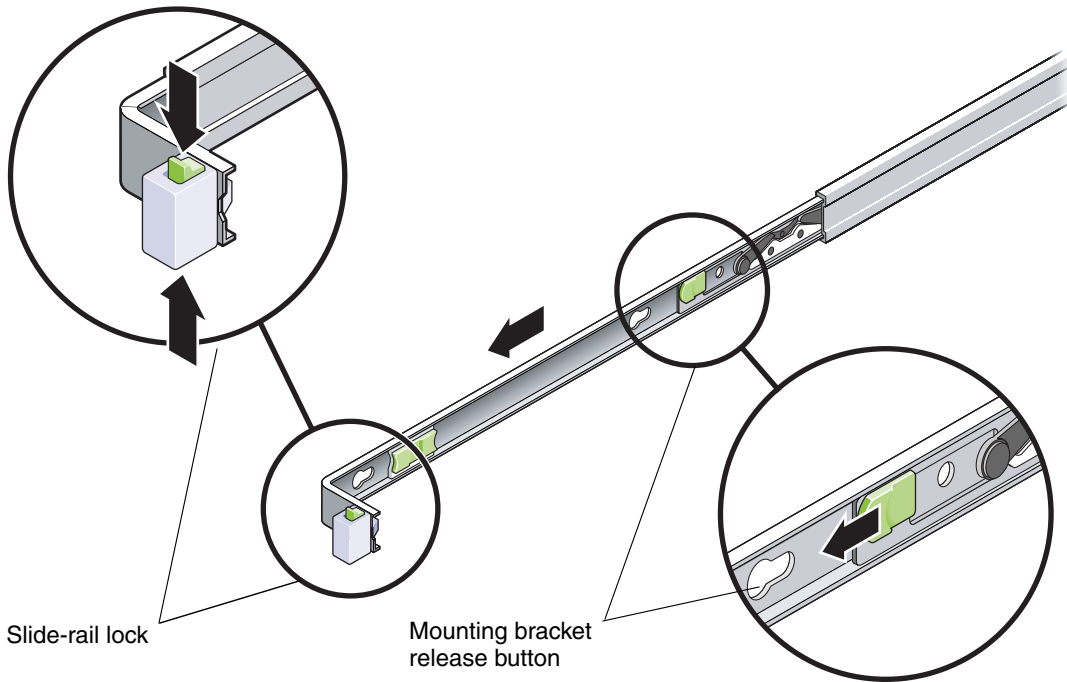

FIGURE 1-2 Disassembling the Slide-Rail Before Installation
2. **Locate the slide-rail lock at the front of one of the slide-rail assemblies, as shown in FIGURE 1-2.**
3. **Squeeze and hold the tabs at the top and bottom of the lock while you pull the mounting bracket out of the slide-rail assembly, until it reaches the stop.**(See FIGURE 1-2.
4. **Pull the mounting bracket release button toward the front of the mounting bracket, as shown in FIGURE 1-2, and simultaneously withdraw the mounting bracket from the slide-rail assembly.**